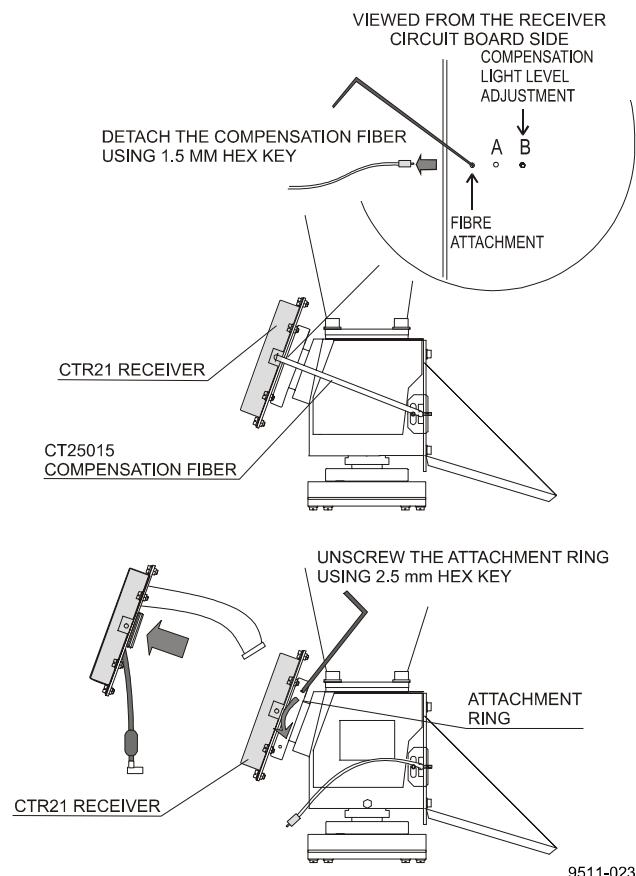

Figure 34 Removing the Receiver
1. Detach the Compensation Fiber from the receiver by loosening the screw (See Figure 34 below) with a 1.5 mm hexagon key and pulling the fiber end gently out. Do not twist the compensation fiber.
4. Loosen the attachment ring (See Figure 34 below) using a 2.5 mm hexagon key as a lever; there are holes in the attachment ring for that purpose. If the Receiver begins to move along, stop it by hand. The photo diode has been centered at the factory - **do not apply force to the Receiver because that may disturb the centering**. Take the receiver into your hand and detach the Coaxial Cable from it.
2. Take the Receiver into your hand and set it in place. Note the right position, the ribbon and coaxial cables come out from the back side. Rotate the attachment ring (see Figure 34 on page 133) first by hand and then tighten it using a 2.5 mm hexagon key as a lever. If the receiver begins to move along, carefully stop that by hand.
1. Detach the Compensation Fiber from the receiver by loosening the screw (See Figure 34 on page 133) with a 1.5 mm hexagon key and pulling the fiber end gently out. Take care not to twist the compensation fiber.
4. Loosen the CTR21 Receiver attachment ring (See Figure 34 on page 133) using a 2.5 mm hexagon key as a lever; there are holes in the attachment ring for that purpose. If the Receiver begins to move along, stop it from rotating by hand.
2. Take the Receiver CTR21 in your hand and set it in place. The ribbon and coaxial cables come out from the back side. Rotate the attachment ring (see Figure 34 on page 133) first by hand and then tighten it using a 2.5 mm hexagon key as a lever. If the receiver begins to move along, carefully stop it by hand from rotating.